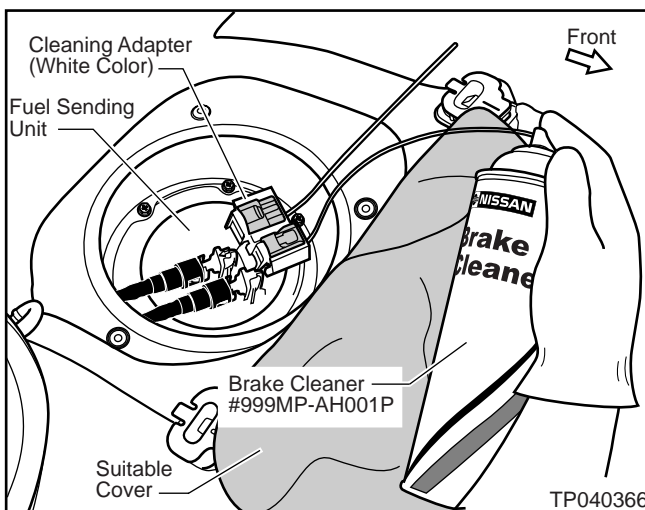

Figure 21
9. Spray Brake Cleaner #999MP-AH001P through each Adapter Tube for about two seconds (see Figure 21).